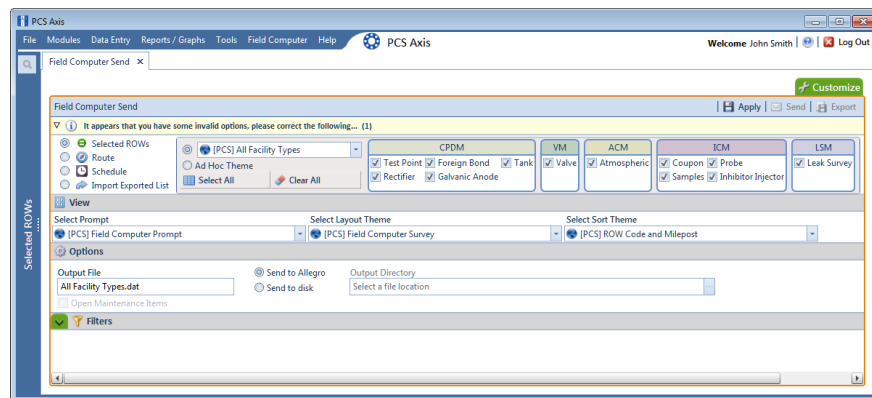

Figure 13-24. Field Computer Send
- 2 Click **Field Computer** > **Send** to open the *Field Computer Send* window (Figure 13-24).